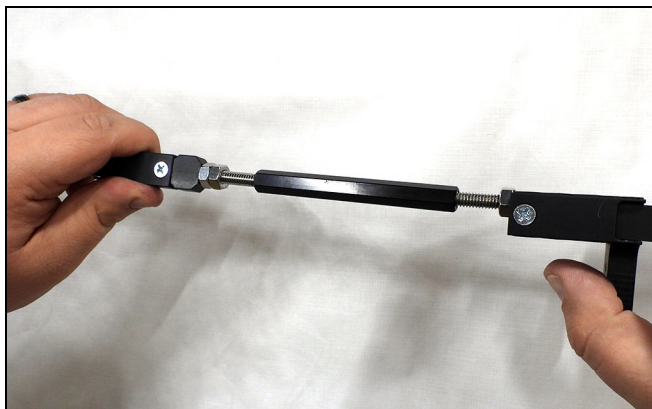

Figure 32
1. Loosen turnbuckle until there are 5 threads of engagement on each side. See Figure 32